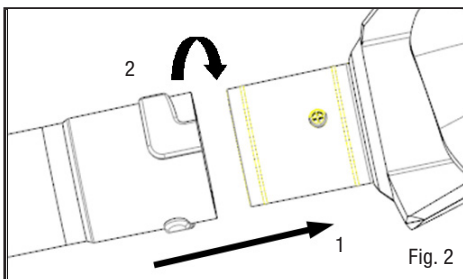

Fig. 2
1. Align either of the grooves the tube with the tabs on blower housing. Push the tube onto the blower housing until the tab engages the grooves (Fig. 2)